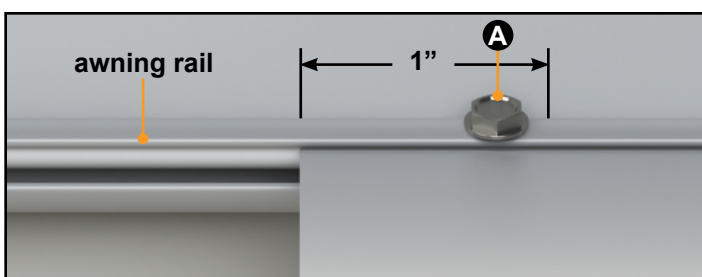

Fig.11
2. Secure the fabric in the awning rail no more than 1" inside the edge of the fabric on both ends using a #6 x 1/2" hex head self-tapping screw. Install the screw into the awning rail into the fabric and the polycord (Fig.11).